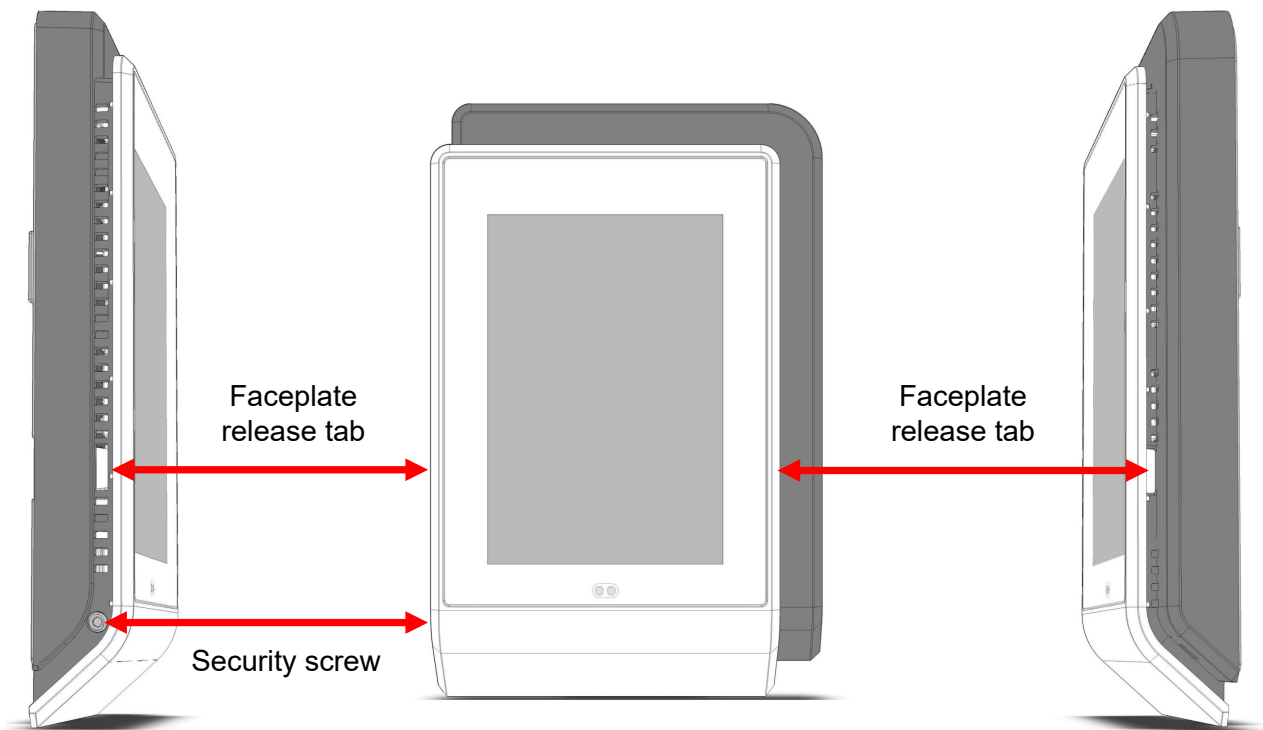

Figure 2: UNITOUCH Security Screw and Faceplate Tab Locations
- Using an appropriately sized tool, press in the two (2) release tabs on the sides of the device and pull the front cover out from the bottom. See [Figure 2 \[pg. 3\]](#) for security screw and release tab locations.